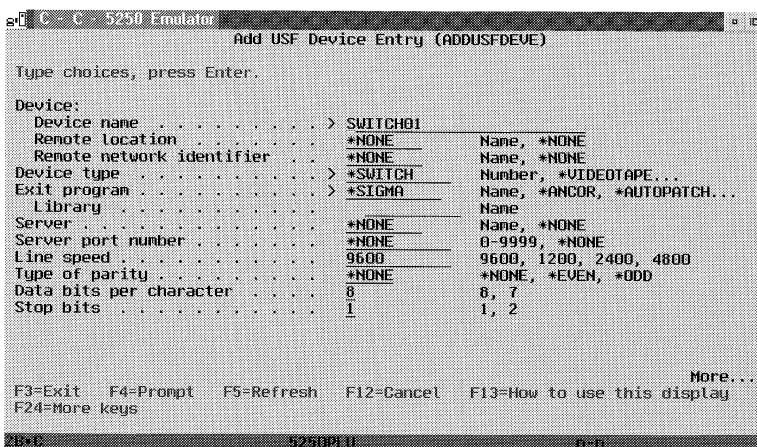

Figure 4-4. The Add USF Device Entry Display with Additional Fields (Version1)
5. Press **Enter**. Additional fields appear in the Add USF Device Entry display. Figure 4-4 shows an example of the display with the additional fields.
If the device does not have a logical connection to a workstation (you typed ***NONE** in the **Remote location** and **Remote network identifier** fields), the additional fields appear as they do in Figure 4-4 on page 4-5. Complete the fields as follows: